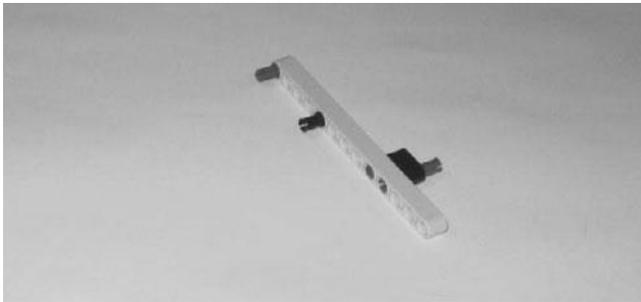

Figure 10.9
Step 2: Connect the two beams used in Step 1 together as shown in Figure 10.9.